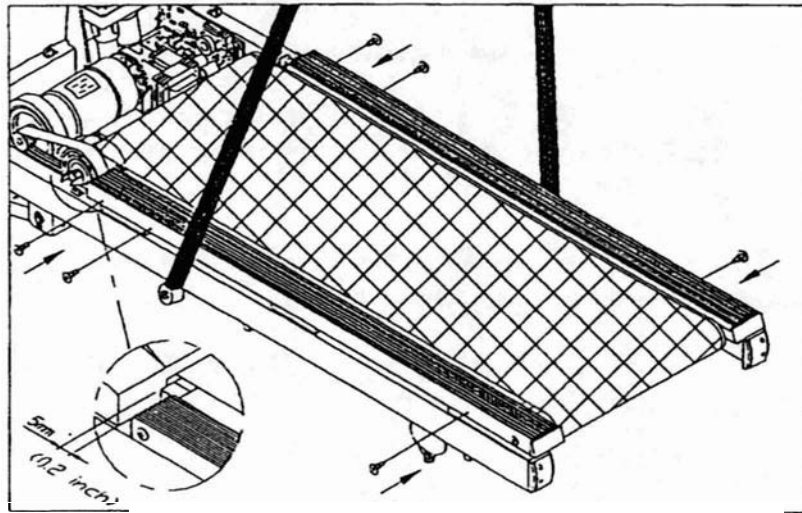

Fig.13
7. Then tighten all screws on both sides. (see Fig.13)